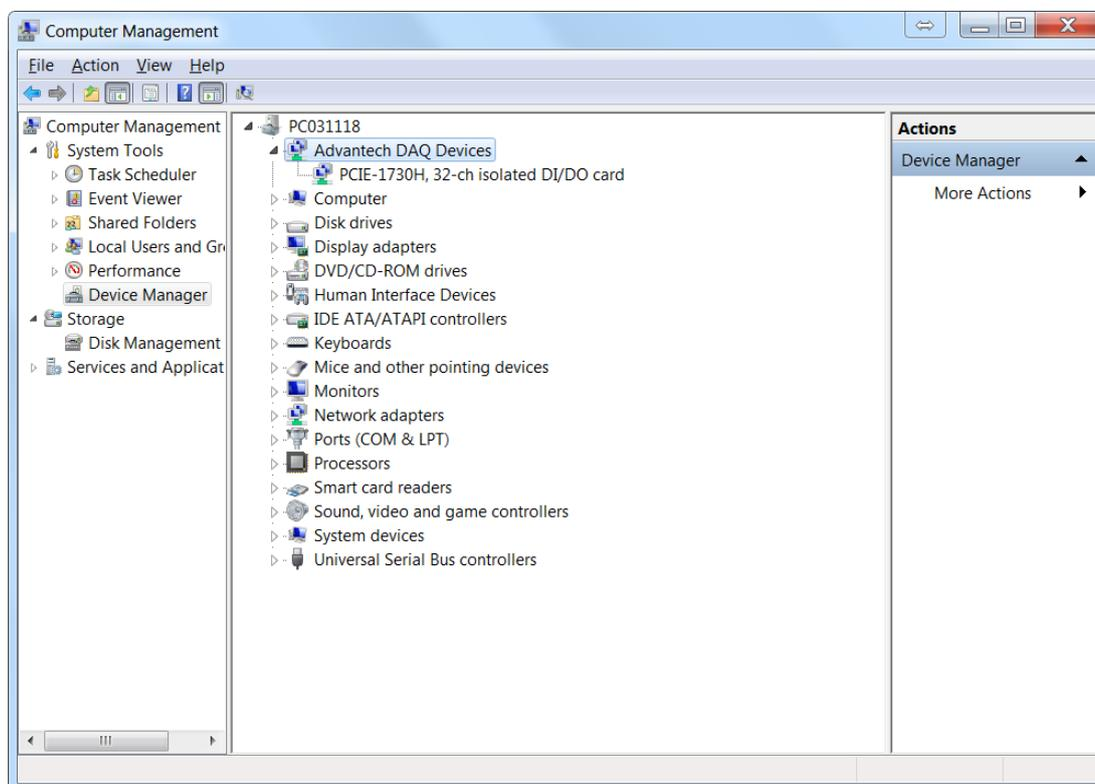

Figure 2.1 Device Manager
2. The PCIE-1730 series card should be included in the list of installed devices, as show in Figure 2.1.